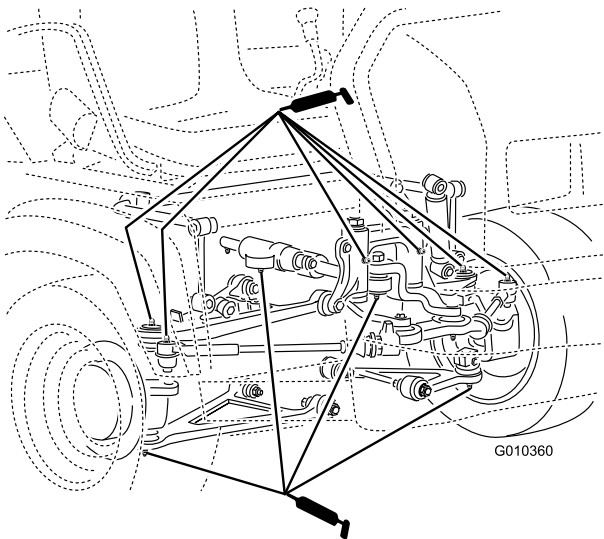

Figure 39
- Ball joints (4), tie rods (2), pivot mounts (2) and steering cylinder (2) (Figure 39)